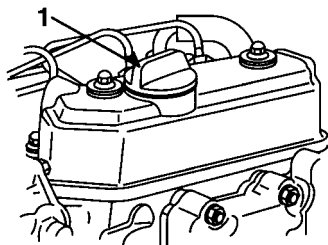

Figure 27
6. Remove the oil filler cap (Fig. 27) and refill the engine with a high-quality, CD class engine oil (see viscosity chart).